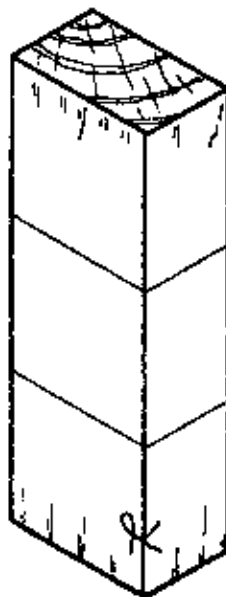

Fig. 2
- Mark out the position of the mortise and square the lines across the face side and edges, using a try square and pencil (Fig. 2).